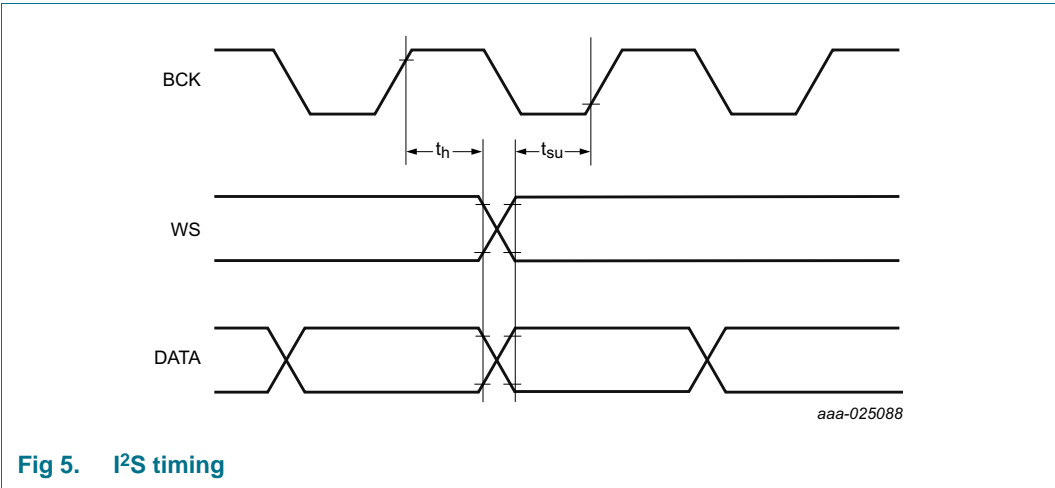

Fig 5. I2S timing
**Table 11. I2S bus interface characteristics; see Figure 5**